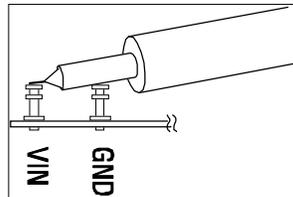

Figure 1. Measuring Input or Output Ripple
NOTE: When measuring the input or output voltage ripple, care must be taken to avoid a long ground lead on the oscilloscope probe. Measure the input or output voltage ripple by touching the probe tip directly across the Vin or Vout and GND terminals. See the Measurement Equipment Set-up diagram in Figure 1 for proper scope probe technique.
1. Connect the input power supply to the Vin and GND terminals. Connect the loads between the Vout and GND terminals. Refer to figure 1 for the proper measurement equipment setup.